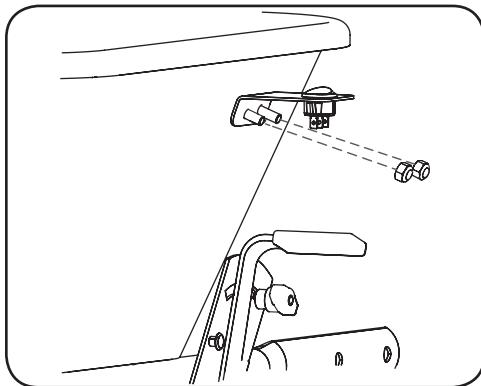

Figure 1-12
13. Install the motor ON/OFF switch onto the right side of the hopper using two hex screws, washers and locknuts. By threading the hex screws through the washers, then through the hopper. Secure the motor ON/OFF switch to the outside of the hopper with the locknuts. See Figure 1-12.